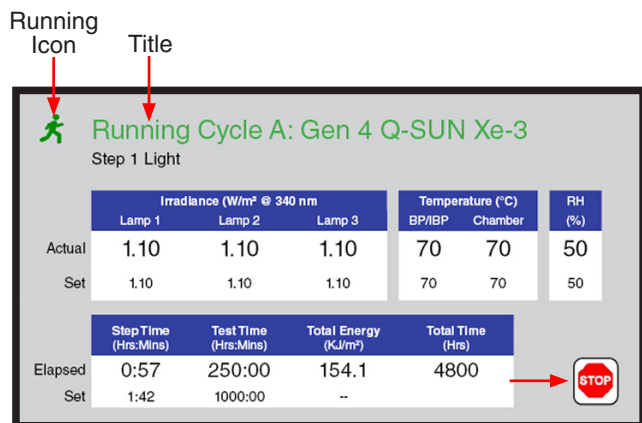
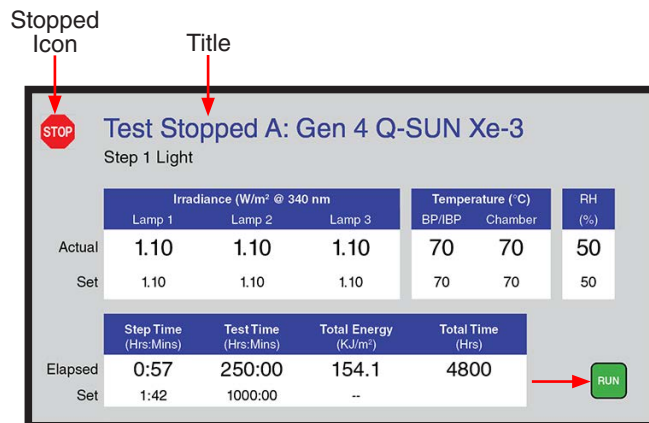

Figure 10.2b: Status icon and title when test running.
Figure 10.2c: Status icon and title when test stopped.
- A colored icon and title at the top of the screen indicate the overall status of the test (Figure 10.2b, Figure 10.2c).